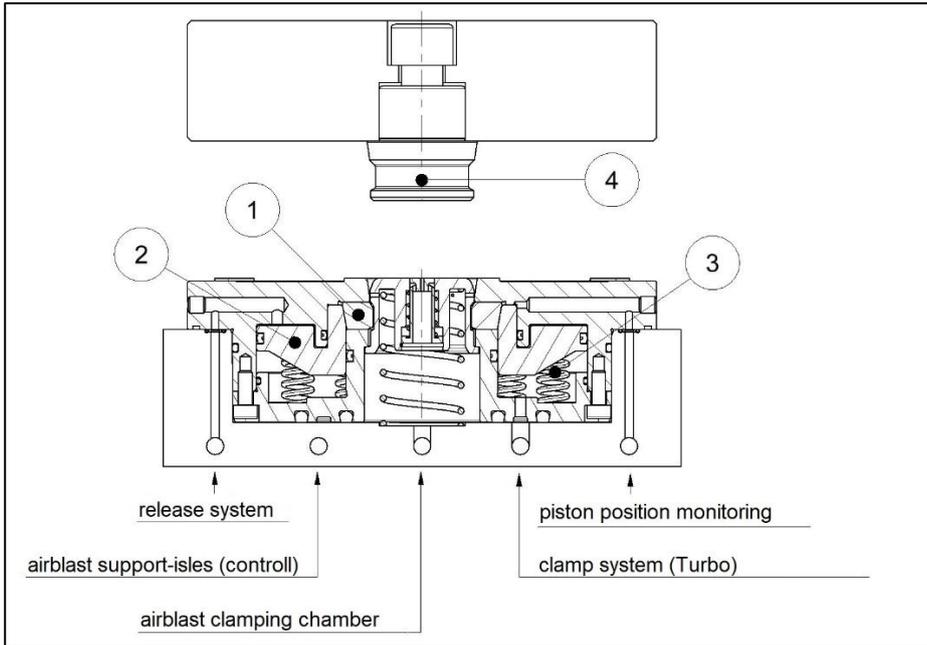

Figure 5 – Sectional view of the clamping / release process
1. The piston (Fig. 5/2) must be at the lower stop to initiate a clamping process. The pressure medium is introduced through the opening (release system) in the housing above the piston (Fig. 5/2). Airblast of the clamping chamber and airblast of the support isles are activated.
2. The piston (Fig. 5/2), which surrounds the clamping segments (Fig. 5/1), lets them open through the expansion segments.
3. The clamping plug (Fig. 5/4) is mounted in a device, which can now be inserted and must lie flat. As soon as the device is lying flat, airblast of the clamping chamber and airblast of the support isles are deactivated.
4. If the pressure medium is now released, the piston (Fig. 5/2) moves upwards due to the force of the spring assembly (Fig. 5/3). The clamping segments (Fig. 5/1) are placed against the piston (Fig. 5/2) and surround the clamping plug (Fig. 5/4).
5. The pressure medium is introduced through the opening (clamp system - Turbo) in the housing below the piston (Fig. 5/2) to complete the clamping process. This pressure medium can be drained or remain in the system until a new release process. Then the piston position check is queried via the separate connection. The system is clamped correctly if there is no dynamic pressure. The system is not clamped (incorrect clamping) if dynamic pressure is present.
1. The pressure medium is introduced through the opening (release system) in the cover above the piston (Fig. 5/2). Airblast of the clamping chamber and airblast of the support isles are activated.
3. The clamping plug (Fig. 5/4) can now be lifted out of the clamping chamber. The interfaces are pneumatically cleaned by using the airblast connections.